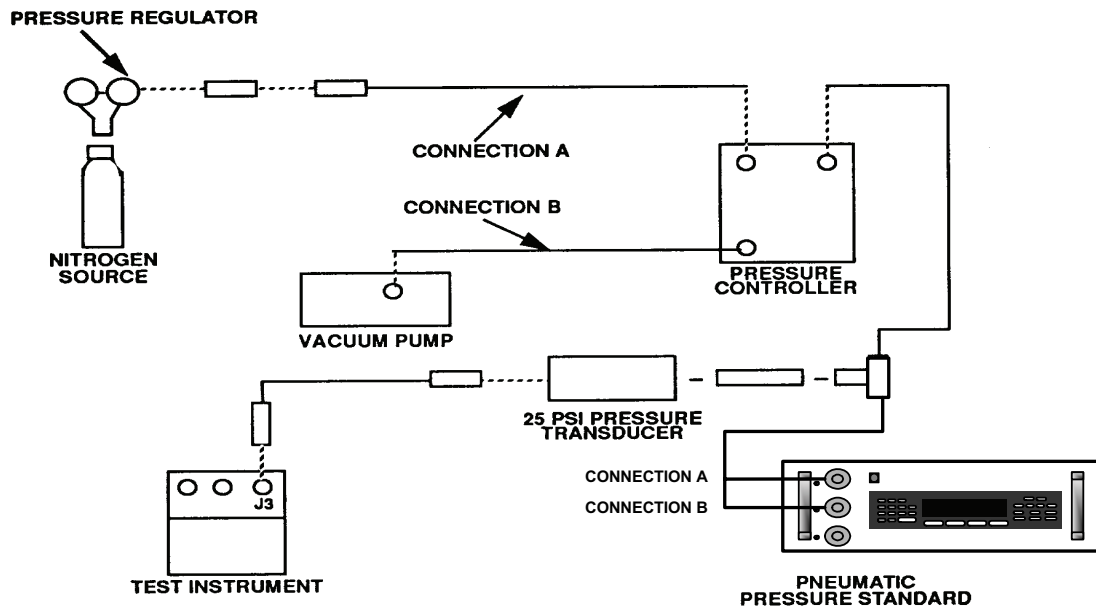

Figure 3. Pressure and vacuum - equipment setup (25 psi).
- (2) Set **TEST SELECT** switches to **50**.
- (3) Operate hydraulic pressure standard to apply 1000 psi and return to **0** three times.
- (4) With pressure at **0**, press and hold **TEST** pushbutton until **CAL** appears on TI display. Release **TEST** pushbutton.
- (5) Wait for offset value to appear on display. Offset value will be between **-150** and **+150**.
- (6) Press and release **TEST** pushbutton.
- (7) Operate hydraulic pressure standard to apply 300 psi. TI will indicate between 277.5 and 322.5.
- (8) Operate hydraulic pressure standard to apply 1000 psi. TI will indicate between 960 and 1040.
- (9) Connect equipment as shown in CONNECTION A (fig. 3).
- (10) Set **TEST SELECTOR** switches to **49**.
(1) Connect equipment as shown in CONNECTION B (fig. 3).
(2) Set **TEST SELECT** switches to **45**.
(3) Operate vacuum pump and adjust pressure controller and pneumatic pressure standard controls for 18 inHg indication and back to **0** three times.
(4) Stop the vacuum pump and, with pneumatic pressure standard indicating **0**, press and hold **TEST** pushbutton until **CAL** appears on display. Release **TEST** pushbutton.
(5) Wait for offset value to appear on display. Offset value will be between **-4.5** and **+4.5**.
(6) Press and release **TEST** pushbutton.
(7) Operate vacuum pump and adjust necessary controls for 18.00 inHg indication on pneumatic pressure standard. TI will display between 17.10 and 18.90.